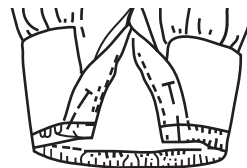

Figure 26
- b. Serge the band to the sleeve. Secure the thread ends (Figure 26).